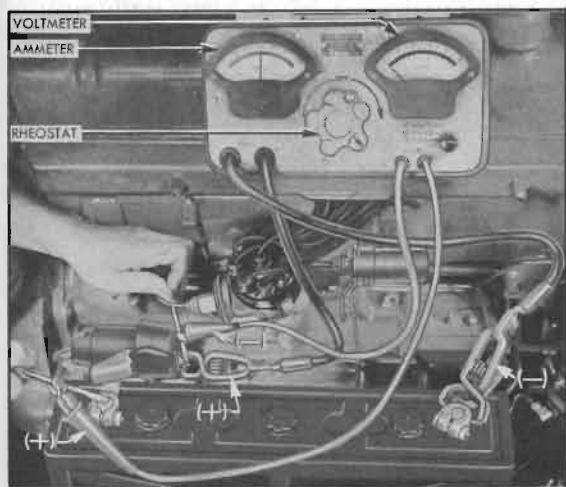

Figure 10-7—Testing Battery Cables and Connections with Voltmeter, Ammeter, and Rheostat
2. Connect ammeter positive (+) lead to battery terminal stud on cranking motor solenoid switch. Connect ammeter negative (−) lead to one side of rheostat and connect other side of rheostat to ground on engine, preferably at point where battery ground strap is attached. In the instrument shown in figure 10-7 the ammeter and rheostat are connected in series inside the case.
3. Connect voltmeter negative (−) lead to battery terminal stud on solenoid switch. Use a prod with voltmeter lead, if necessary, to insure direct contact with the terminal stud. *Do not connect to the ammeter lead clip.* Attach a prod to voltmeter positive (+) lead and apply the prod to center of battery positive (+) post (fig. 10-7). Make sure that clips of voltmeter